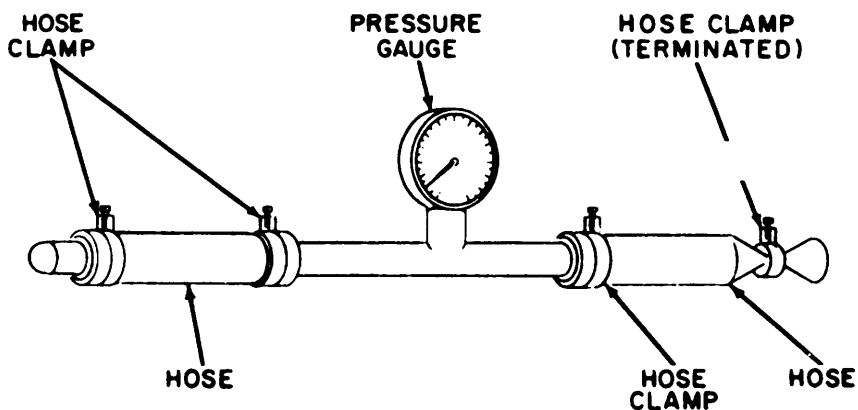

Figure 4-36. Test Gauge Assembly
i. Remove pressurization pump and connect the locally fabricated gauge shown in figure 4-36.